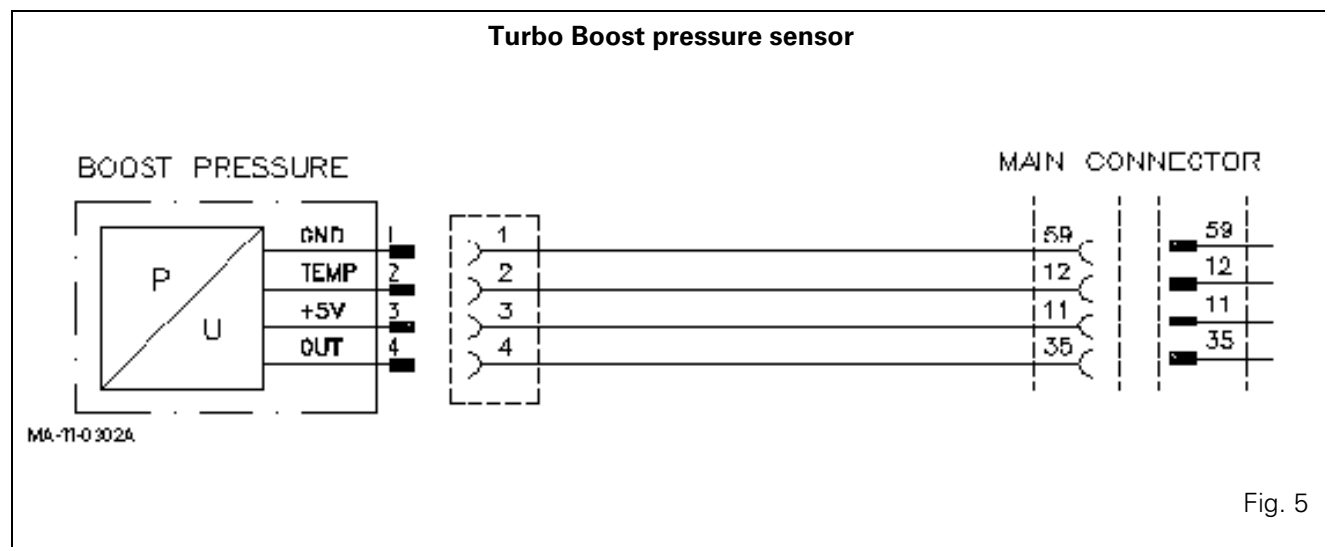

Fig. 5
63. Remove the screws and nuts (14).
64. Take the ball joints (6) out of the steering levers (7).
65. Remove the two stub axles (1) (Fig. 5).
67. Remove screws (30), and remove the ram (2) from the axle beam (12).